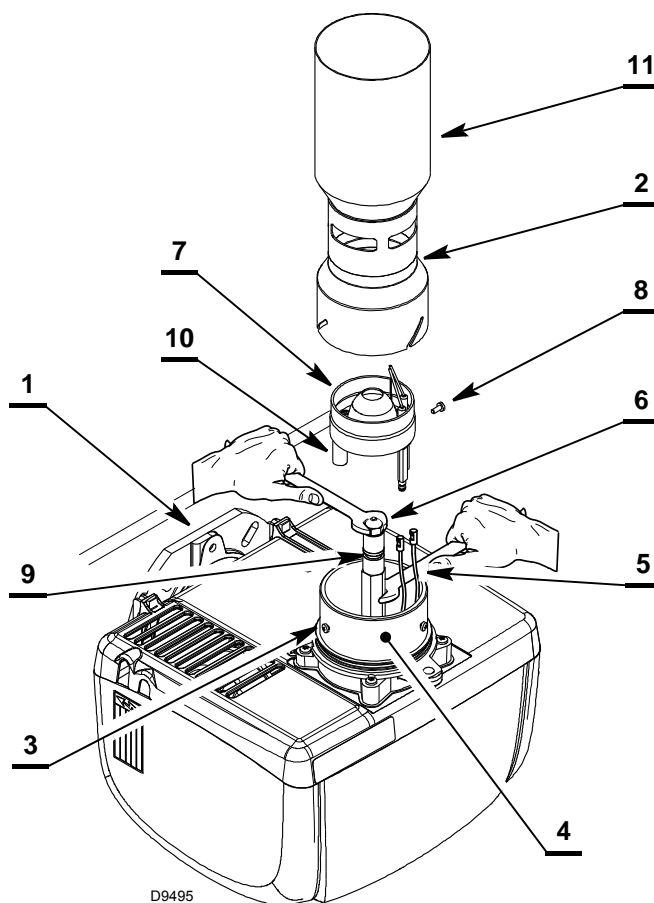
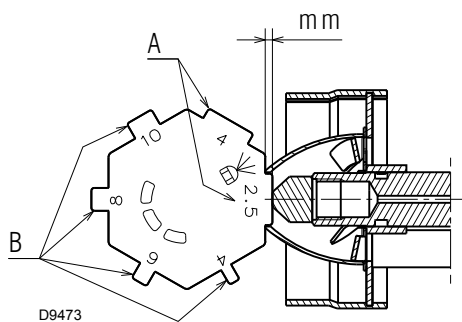

Fig. 24
Fig. 26
- Hook the burner onto flange 1) (Fig. 24).
- hook the burner to the flange 1) (Fig. 24) and loosen the screws 3);
HOLD THE NOZZLE HOLDER WITH A SPANNER (Fig. 24).
- Use the template 2) supplied (Fig. 26) to check that the head assembly is placed correctly 1), following the instructions indicated in Tab. B.
- Fit the blast tube 2) (Fig. 24) and fix it with the screw 3) with a tightening torque not exceeding 0.8 Nm, being careful to adjust the opening of slots as indicated in Tab. A page 16 (use the template supplied) (Fig. 26).